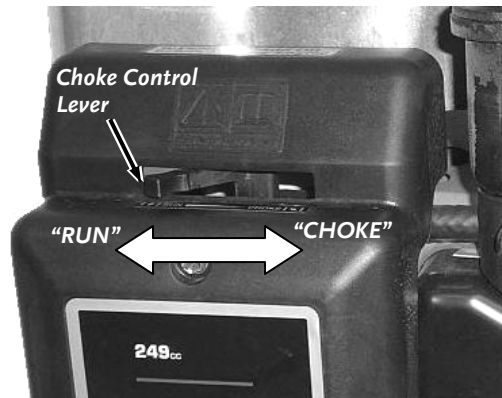

Figure 15
2. Move the Choke Control Lever to the “CHOKE” position (**Figure 15**) (leave in the RUN position if the engine is already warm).
5. As the engine warms up, slowly adjust the Choke to the “Run” position (**Figure 15**). Wait until the engine runs smoothly before each Choke adjustment.